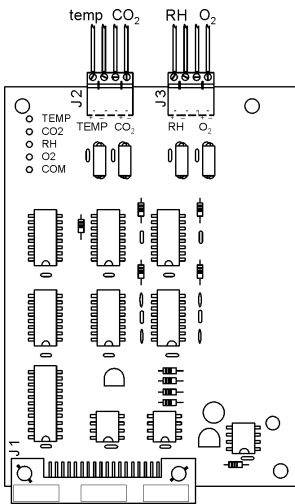

Figure 6-5
3. Carefully slide out electronics drawer and locate the Analog Output board. (Figure 6-5)